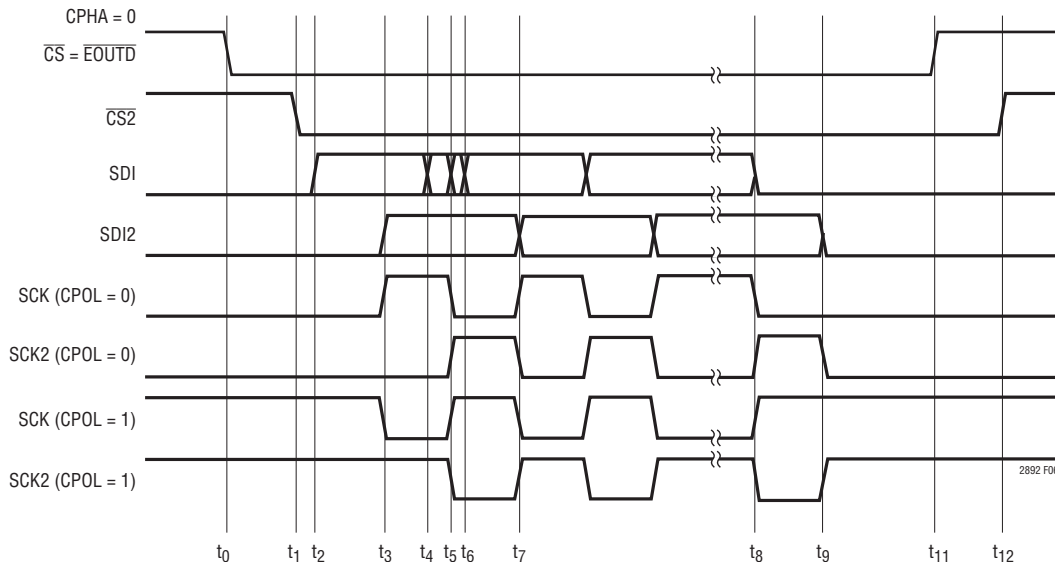

Figure 8. SPI Timing, Unidirectional, CPHA=0
Maximum data rate for single direction communication, master to slave, is 8MHz, limited by the systems encoding/decoding scheme or propagation delay. Timing details for both variations of clock phase are shown in Figures 8 and 9 and Table 3.
- SDI and SCK setup data transition occur within the same data packet. Referencing Figure 6, SDI can precede SCK by up to 13ns ($t_7 \rightarrow t_8$) or lag SCK by 3ns ($t_8 \rightarrow t_9$) and not violate this requirement. Similarly in Figure 8, SDI can precede SCK by up to 13ns ($t_4 \rightarrow t_5$) or lag SCK by 3ns ($t_5 \rightarrow t_6$).